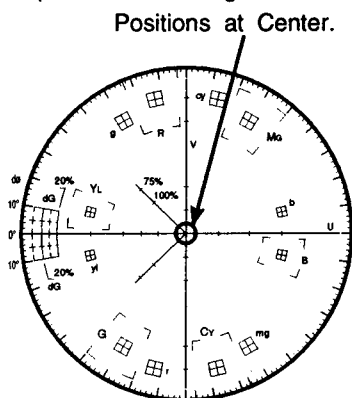

Fig. 5-1-46
- Adjust VR107 so that the vector positions at the center of the Vectorscope as shown in Fig. 5-1-46.
- Adjust VR207 so that the vector positions at the center of the Vectorscope as shown in Fig. 5-1-46.
- Adjust VR307 so that the vector positions at the center of the Vectorscope as shown in Fig. 5-1-46.